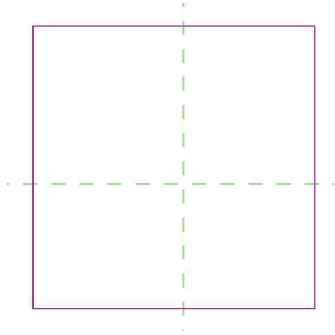

FIGURE 18-2.11 Sketch lines for 3D extrusion
17. Draw a square within the outer *Reference Planes* (Figure 18-2.11).
When creating a *Solid Extrusion*, a simple 2D outline is sketched as in Figure 18-2.11. This defines the perimeter of the extrusion. When “finish extrusion” is selected, the 2D outline is extruded perpendicular to the sketch lines to a thickness (or depth) specified on the *Options Bar*.